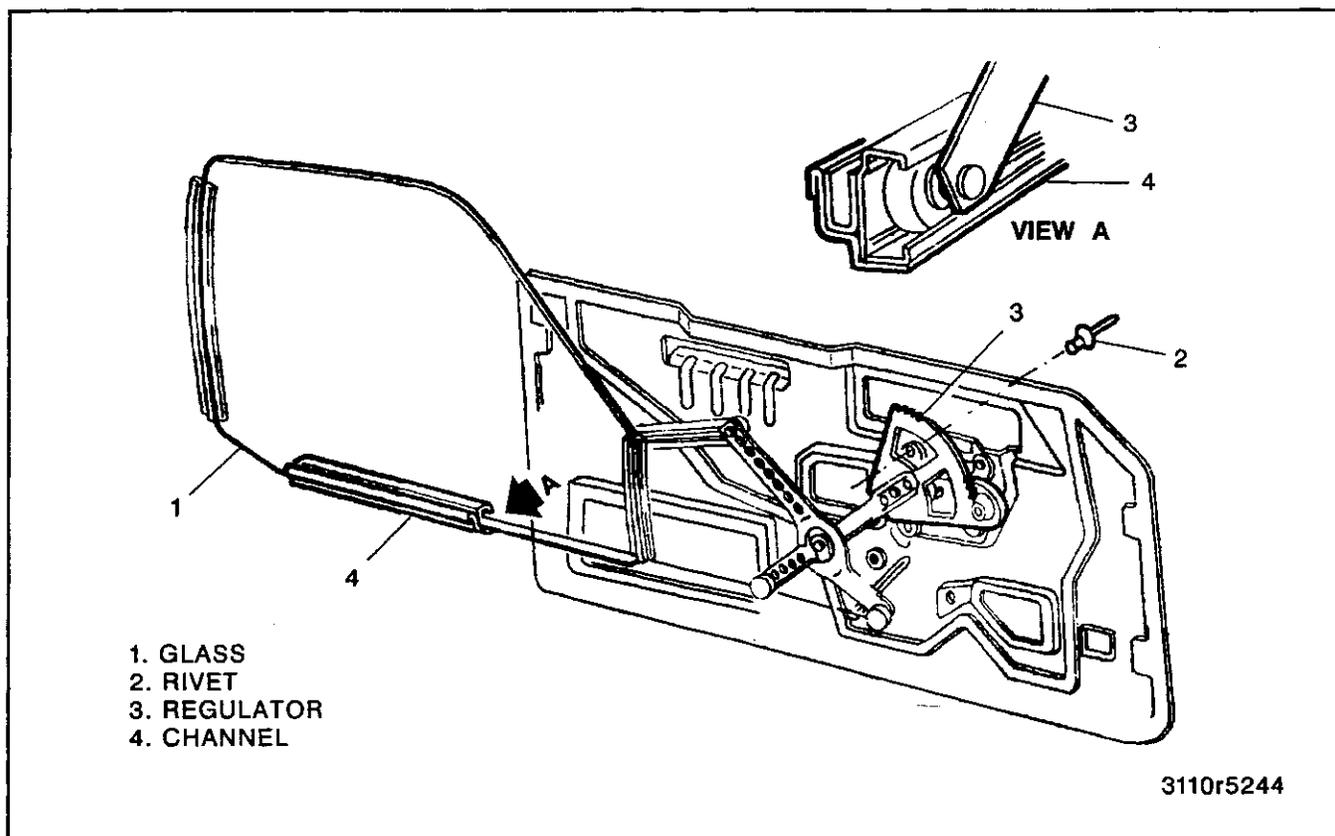

Figure 22—Window Regulator
Remove or Disconnect (Figures 22 and 23)
Install or Connect (Figures 22 and 23)
←→ Remove or Disconnect (Figures 22, 23, and 24)
4. Slide glass from the channel (figures 22 and 23).
→← Install or Connect (Figures 22, 23, and 24)